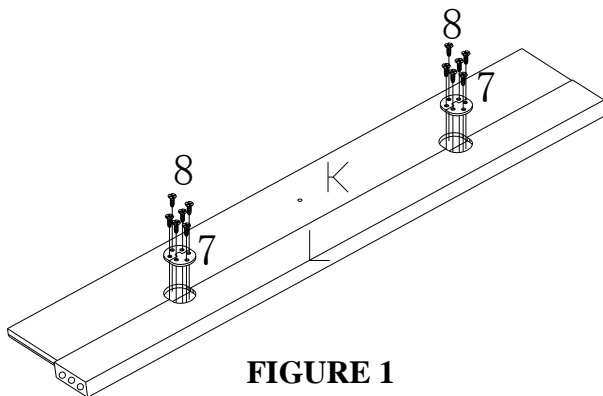

FIGURE 1
3. INSERT SMALL WOOD SCREWS (8) THROUGH HINGES (7) AND TIGHTEN INTO PREDRILLED HOLES ON FRONT PANEL (K) AND CROSS BRACE (L). AS SHOWN IN FIGURE 1.